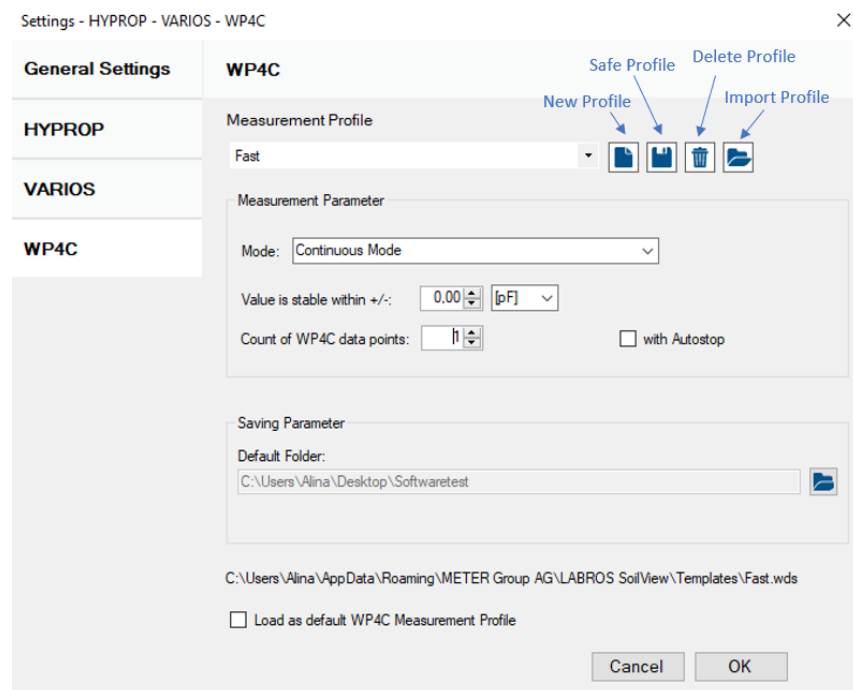

Figure 3 Create Template
To create an owner profile use the four buttons described in **Figure 3**. As a measurement parameter, the **Measurement** mode is set using the drop-down menu. Using **Continuous** mode, the count of WP4C data points may be selected as well as the tolerance. If the count of measurement cycle is e.g. set to three and the tolerance is set to 0.2 pF, the software verifies if the last three recorded data points are within the tolerance of ± 0.2 pF. Select the **Autostop** checkbox to stop the measurements automatically.
3. Select one of the default profiles depending on the required measurement mode, or create an owner profile in the Settings menu (Figure 3). For more information about measurement modes, refer to the WP4C User Manual.